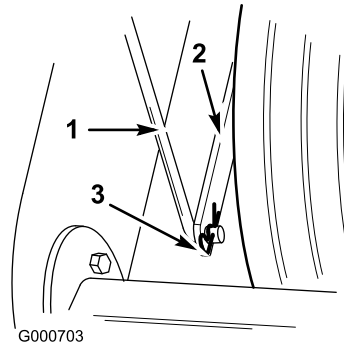

Figure 6
7. Secure the lower end of the height control rod to the bracket on the front wheel support with a hairpin cotter (Figure 6).